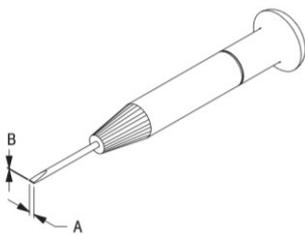

Figure 4
6. Insert the AC power wires in the terminal block connector wire hole and fasten the screws. Screws must be hand tightened with the Ø1.8mm slotted screwdriver to within the specified torque, Figure 4.